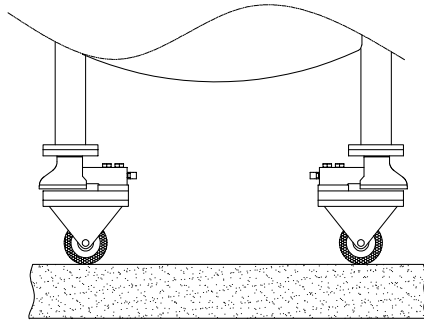

Figure 5-9: Incorrect design for portable tank scale
- The base plates cannot sit directly on casters or wheels as shown in Figure 5-9. Portable scales can be constructed but there must be a rigid frame between the wheels/casters and the weigh module base plates.